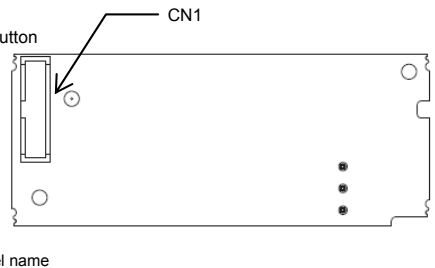

Figure 2-2 Back of the Interface Card
- (2) Insert connector CN1 on the back of the interface card (Figure 2-2) into the option connection ports on the inverter's control PCB. Then tighten the two screws that come with the card. (Figure 4-2)